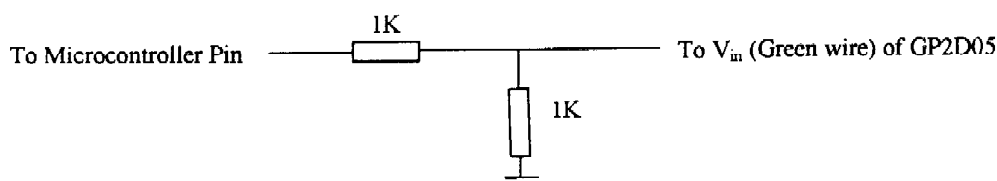

Fig. 1.
*The maximum voltage the input can tolerate is 3 V. Use two 1K resistors (included) to make a voltage divider (fig. 1)
Think of the PSD as a resistor with a large number of taps (wires coming out at various points along the resistor). When light hits the PSD, it hits one of the 'taps' and causes current to flow out each end of the resistor, forming a voltage divider similar to that of figure 1. As an object moves closer or farther from the sensor, incoming light hits a different 'tap' causing the current coming out each end of the resistor to change. These currents are compared and a voltage proportional to the position of the 'tap' (and hence the distance of the object) is generated. This voltage is compared with the voltage that you set with the threshold pot to determine whether the V_{out} line should be sent low. A block diagram of the inner workings of the GP2D05 can be found at the end of this document.